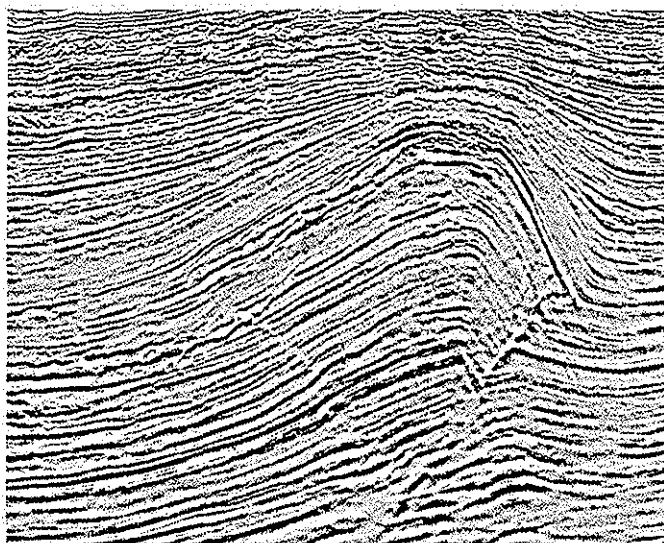

Fig. 2-22. 2D seismic display of an anticlinal feature (refer to color plate for hydrocarbon indicators shown in red). Courtesy Landmark Graphics.
Individual *seismic records* appear on displays as black wiggly lines. On the record in figure 2-22, the intensity (or amplitude) of each line (geophysicists use the term seismic trace) measures the strength of the reflected signal.
**Display.** Seismic work leans heavily on visualization. Displays of 2D vertical slices like the one shown in figure 2-22, either as hard copy or on computer screens, provide first looks at the geology. Horizontal slices of the data cube, usually called *time slices*, can also be displayed.